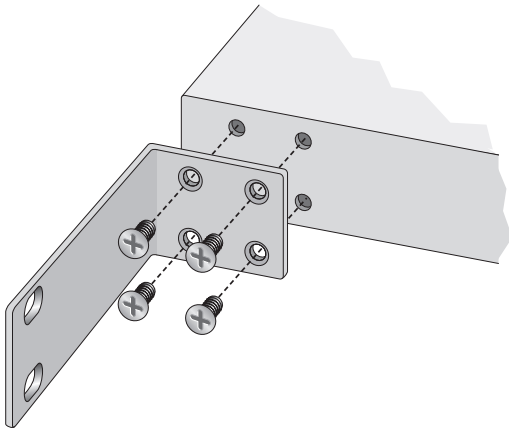

Figure 6 Attaching the Rackmounting Brackets to the Switch
3. Attach the rackmounting brackets to each side of the switch using the screws provided. See Figure 6.